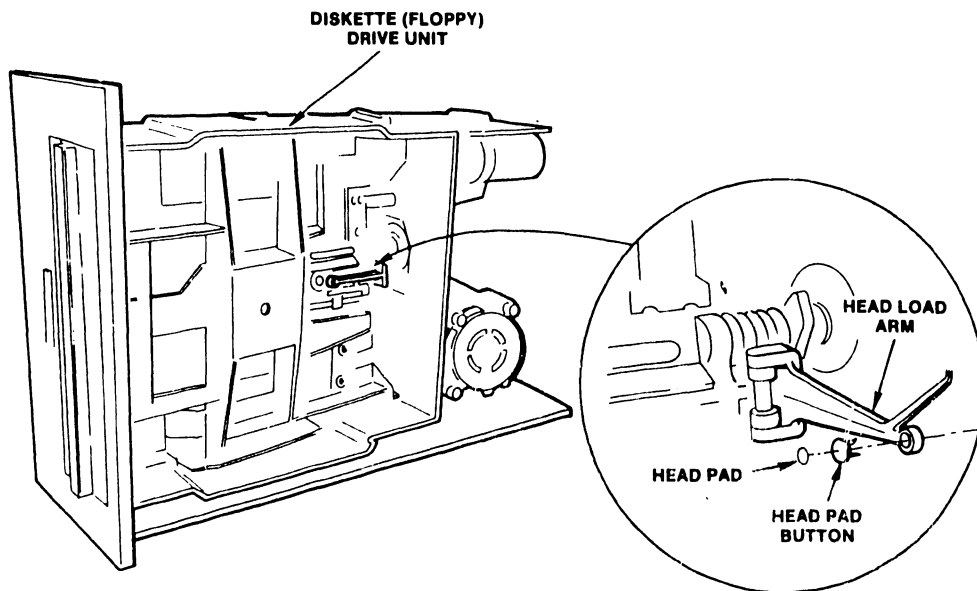

Figure 5-1. Checking/Replacing the Diskette Drive Head Pad
- b. Lift the load arm off the head, being careful not to touch the load button (see Fig. 5-1). Note: Do not bend back the head load arm more than 90°.
Check and/or replace worn read/write head load pad buttons to prevent excessive wear on the diskette (see Fig. 5-1).